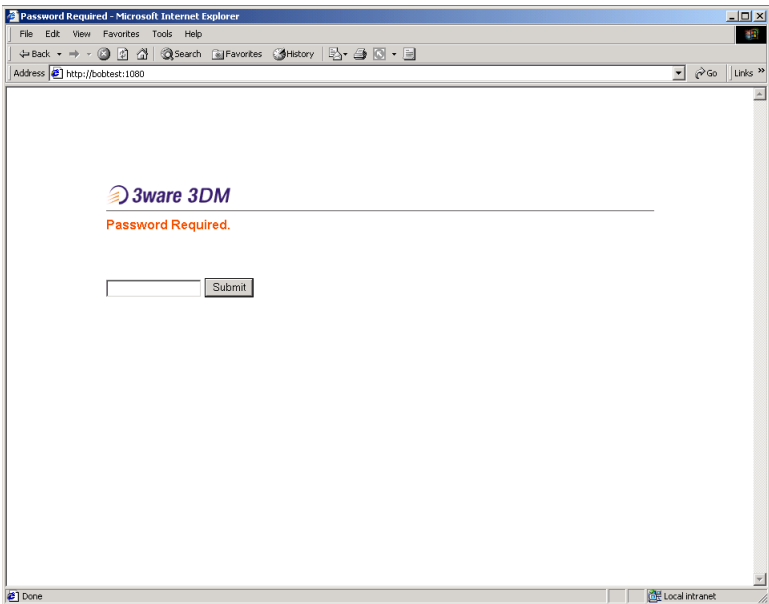

Figure 55. 3DM Login Display
- 5 With password protection enabled, using 3DM will require entering the password into the login display shown in Figure 55. Passwords are case sensitive.